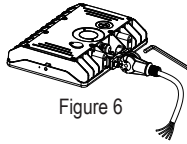

Figure 6
Step 3: Using an Allen key (7/32), lock the two halves of the knuckle bracket, together. (Figure 6)